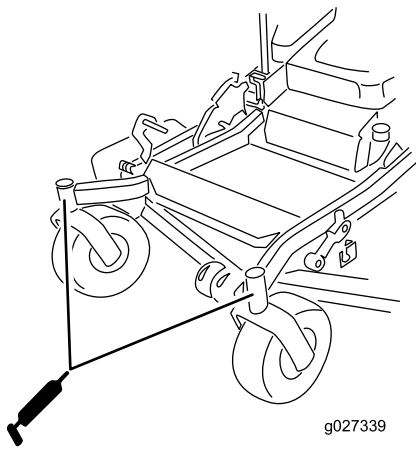

Figure 41
10. Install the hex plug and dust cap (Figure 41).
- Grease the caster-wheel bearings (Figure 41).